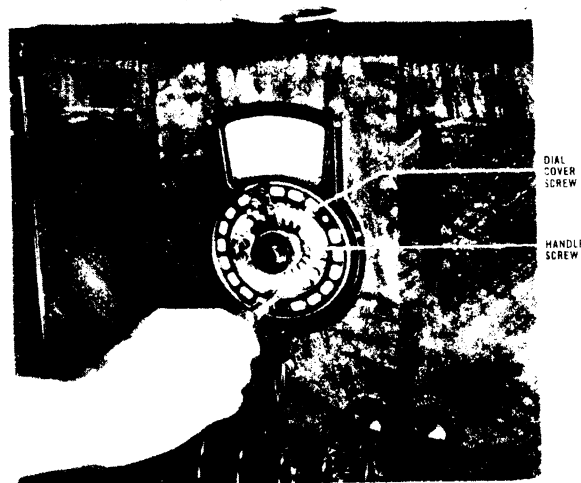

Fig. 1—Automatic Tuning Dial, Code 122, Receiver
B. When the metal cover is removed, two screws will be noted holding the indexing handle to the rotary hub. Remove these screws and detach the handle. See Fig. 1.
C. Referring to Fig. 1, five screws will be seen which hold the dial escutcheon to the dial body. Remove these screws and lift the escutcheon from the dial body.